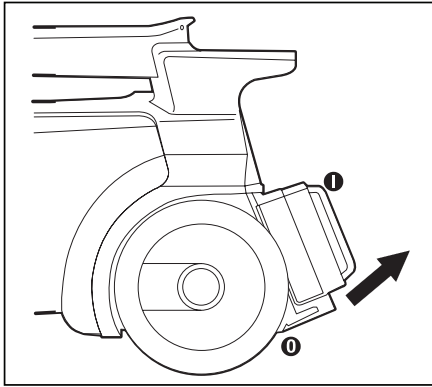

Fig. 13
**Step 1:** Grasp the bottom clips ② on the filter ① (Fig. 13).
**Step 2:** Pull out and down to release (Fig. 13).